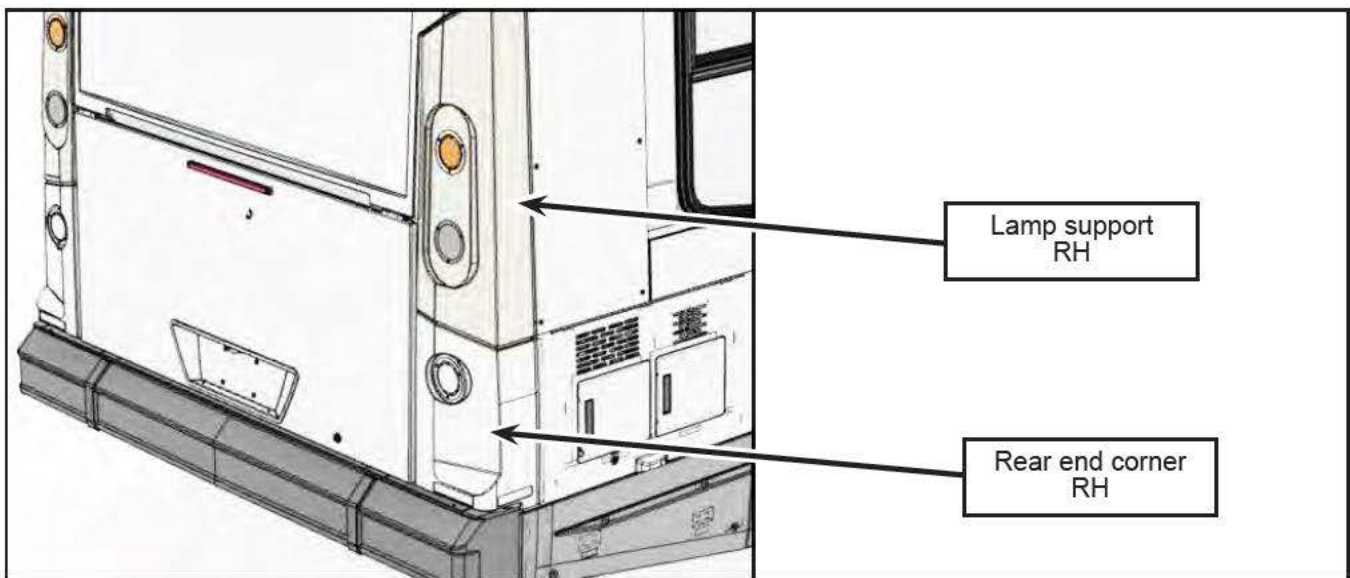

Figure 3 - Remove RH Lamp Support and Rear end Corner
1.8. At the rear of the vehicle, remove the RH lamp support panel and the RH rear end corner (Figure 3).